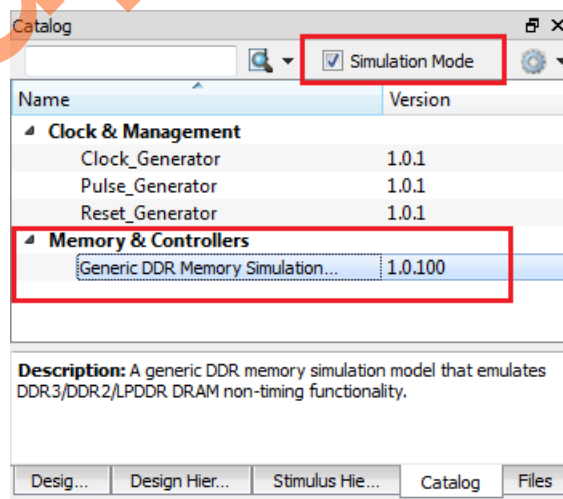

Figure 22 • Generic DDR Memory Simulation Model
3. Under **Memory and Controller**, select **Generic DDR Memory Simulation** model to drag into the SmartDesign testbench canvas. Figure 22 shows the Simulation model.